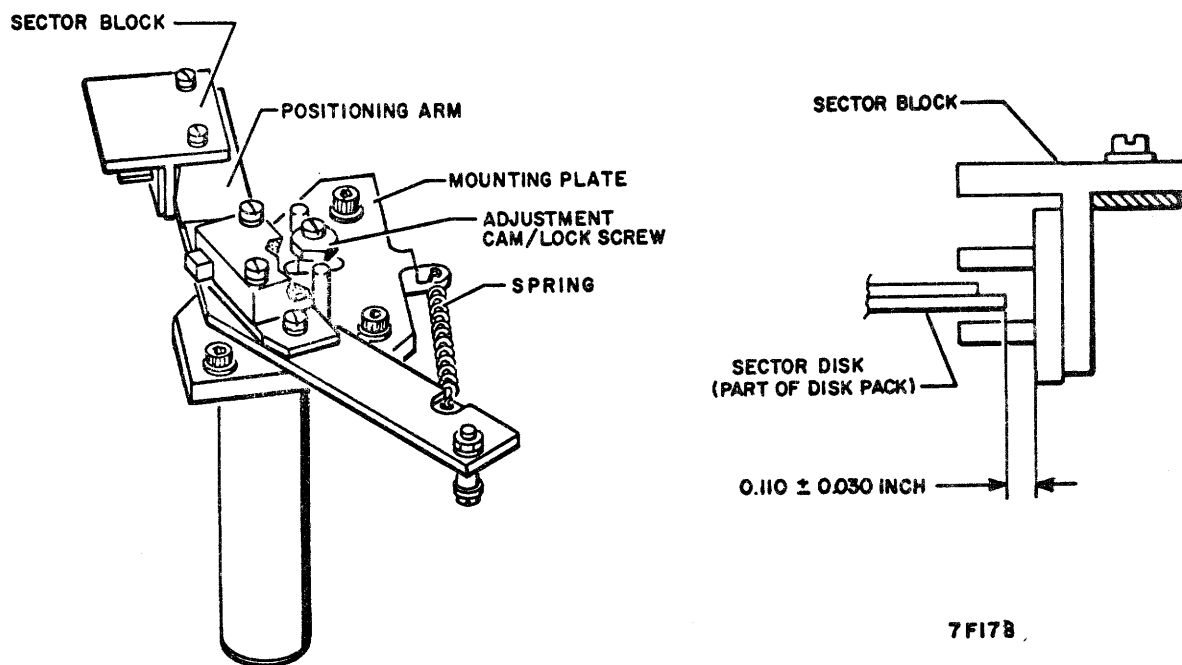

Figure 6-14. Index-Sector Sensor
11. Open cabinet top cover. Manually rotate disk pack. Stop rotation when edge of sector disk is nearest the inner vertical surface of sector block (Figure 6-14).
12. Measure gap between adjacent edge of sector disk and sector block surface. The gap must be 0.110 ± 0.030 inch (Figure 6-14). Adjust as follows:
- a. Loosen three screws securing mounting plate to deck (Figure 6-14).
10. Remove two screws and washers securing sensor block assembly to positioning arm (Figure 6-14). Remove assembly from deck area.